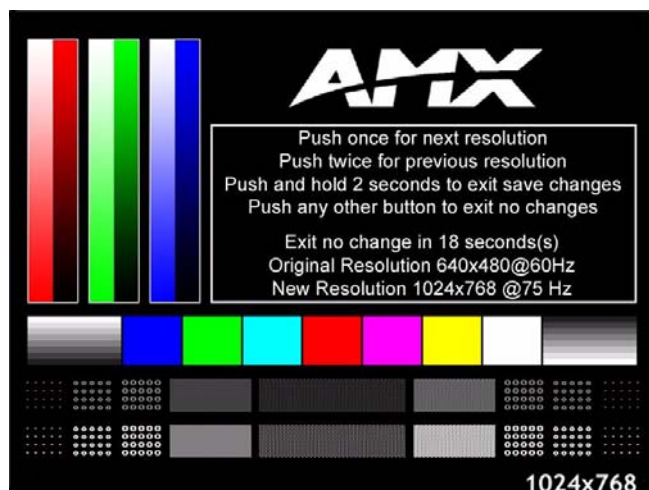

FIG. 31 Resolution Setup page
1. Press the RESOLUTION pushbutton to open the *Resolution Setup* page (FIG. 31).